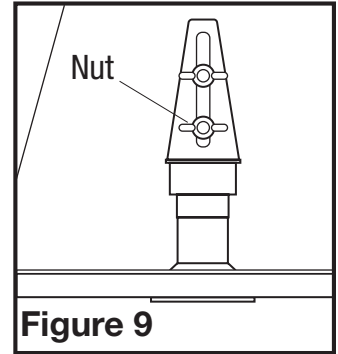

**Figure 8**
2. To remove the filters, pull down on the handle tab until the filter releases from the unit. To reinstall, slide tab at rear of filter into slot in the unit. While holding in handle of filter, lift filter into place and release handle. The filter should snap securely into place (**Figure 8**).